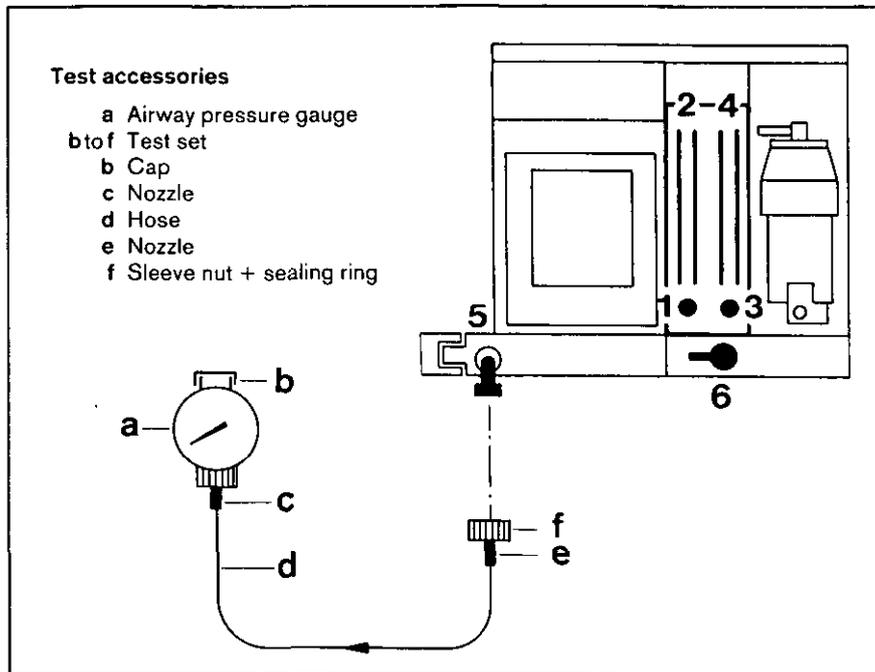

Fig. 15 Sulla 808 V
Accessories required (see Fig. 15):
- Assemble parts a–f according to Fig. 15.
When the O2-flush lever 6 (Fig. 15) is actuated, a steady flow of gas from the Y-piece of the circle system must be perceptible. Do not seal Y-piece.